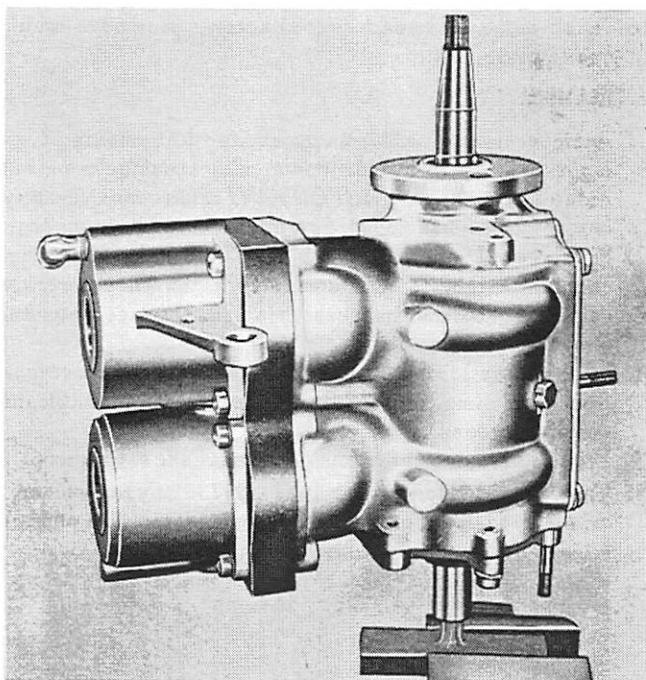

Figure 1. Powerhead on Powerhead Stand
7. Set crankshaft spline on protruding splines of Powerhead Stand. (Figure 1)